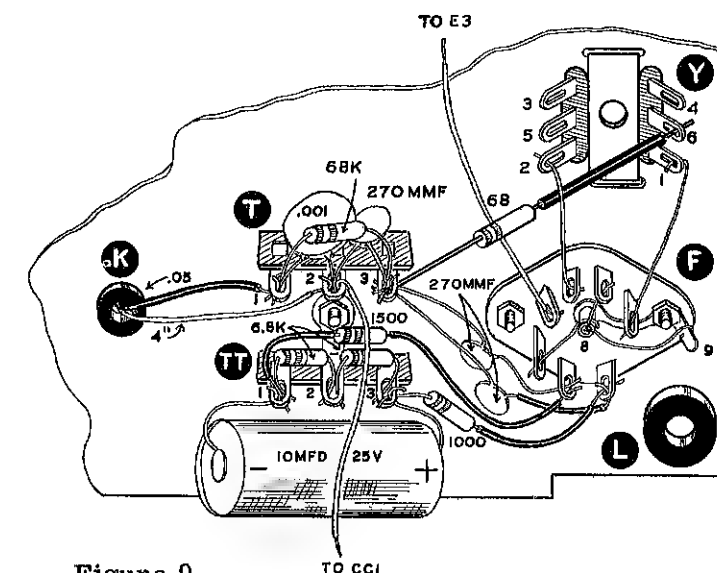

Figure 9
- (✓) Connect a 270  $\mu$ fd disc condenser from socket F2 (NS) to terminal strip T3 (NS). Dress close to chassis. See Figure 9.
- (✓) Connect a 270  $\mu$ fd disc condenser from socket F1 (NS) (use sleeving) to terminal strip T3 (NS). Dress close to chassis.
- (✓) Run a 1500  $\Omega$  resistor (brown-green-red) from socket F2 (S) (2) (use sleeving) to terminal strip TT1 (NS) (use sleeving). Dress close to chassis between strip T and TT.
- (✓) Run a 1000  $\Omega$  resistor (brown-black-red) from socket F1 (S) (2) (use sleeving) to terminal strip TT3 (NS).
- (✓) Connect a 6.8 K $\Omega$  resistor (blue-gray-red) from terminal strip TT2 (NS) to TT3 (NS). Dress between T and TT as shown in Figure 9 and Pictorial 1.